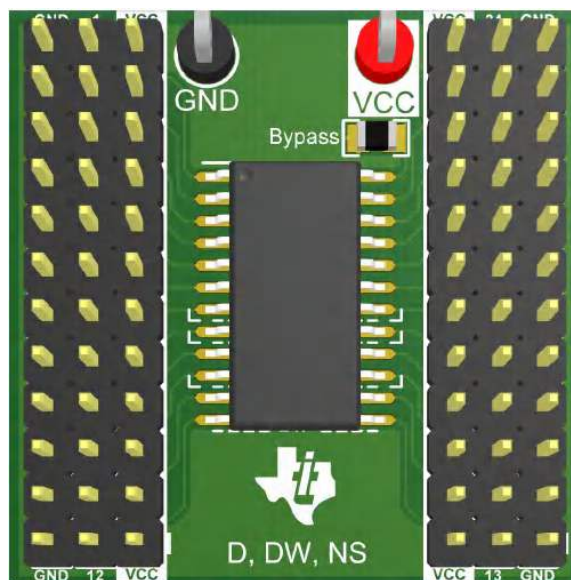

Figure 2-3. Fully Populated Section
- Interface with device pins. The kit includes six 12-pin headers which will allow the user to fully populate a single section. An example of this, with the addition of test points and a bypass capacitor for the supply, can be seen in Figure 2-3.